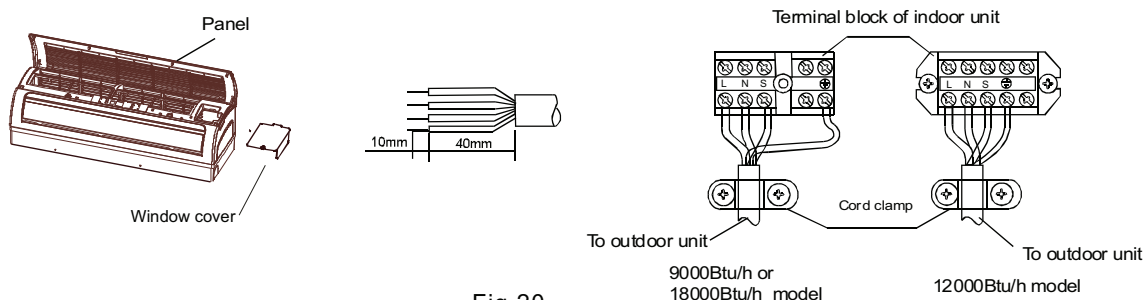

Fig.20
1. Carefully remove the front panel and frame, then remove the Electrical control cover by loosening the screw(See Fig.20).